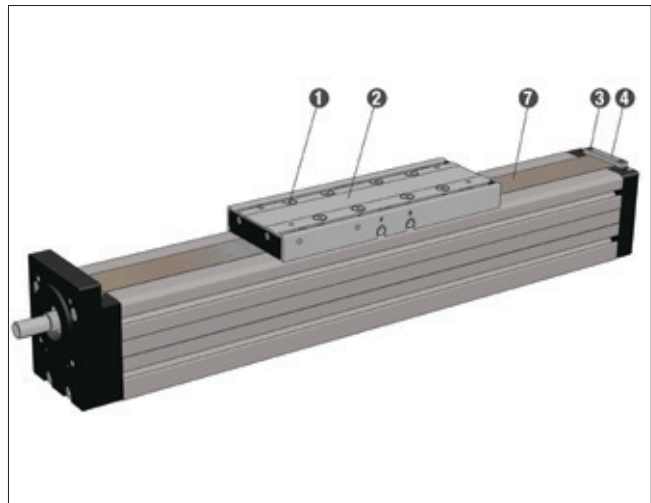

Figure 4.12 __ Cover strip replacement
For the replacement of the cover strip for Linear Axis of the series AXC, the following steps in accordance to Figures 4.12 up to 4.15 must be observed:
1. Disassemble the screws **1** and remove the slider plate **2** (Figure 4.12).